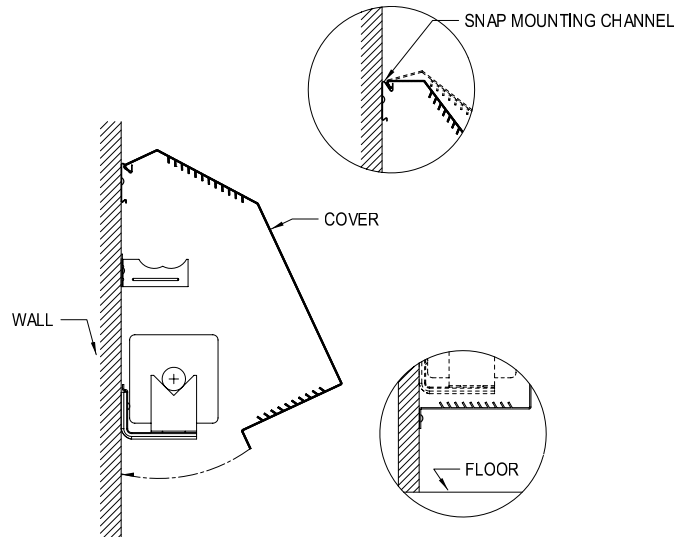

FIGURE H-5
- (5) Install the cover as shown. Secure cover to wall using suitable fasteners. (FIGURE H-5)